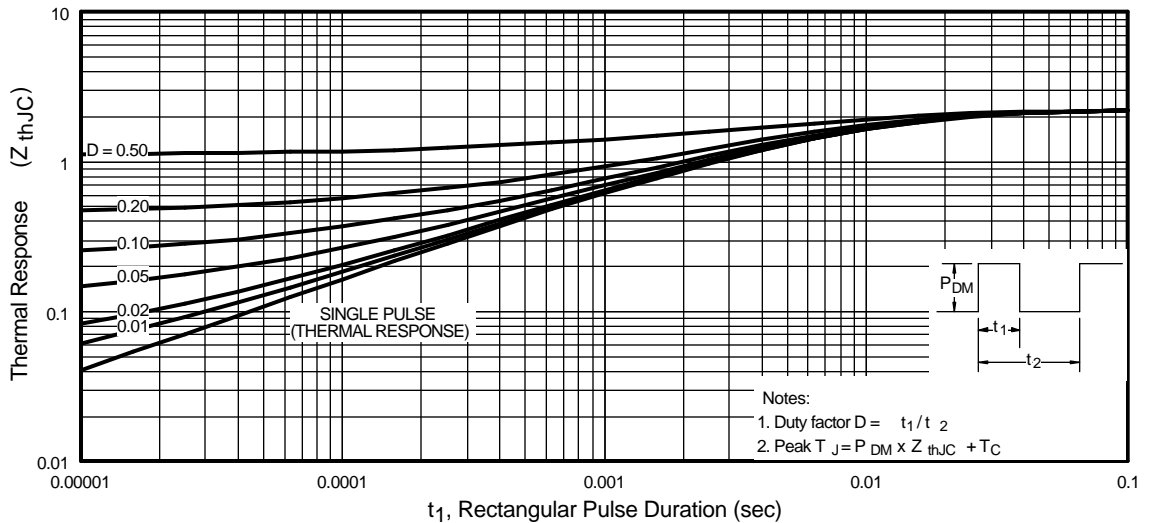

Fig 11. Maximum Effective Transient Thermal Impedance, Junction-to-Case
- ① Repetitive rating; pulse width limited by max. junction temperature. (See fig. 11)
- ② Starting $T_J = 25^\circ\text{C}, L = 590\mu H$